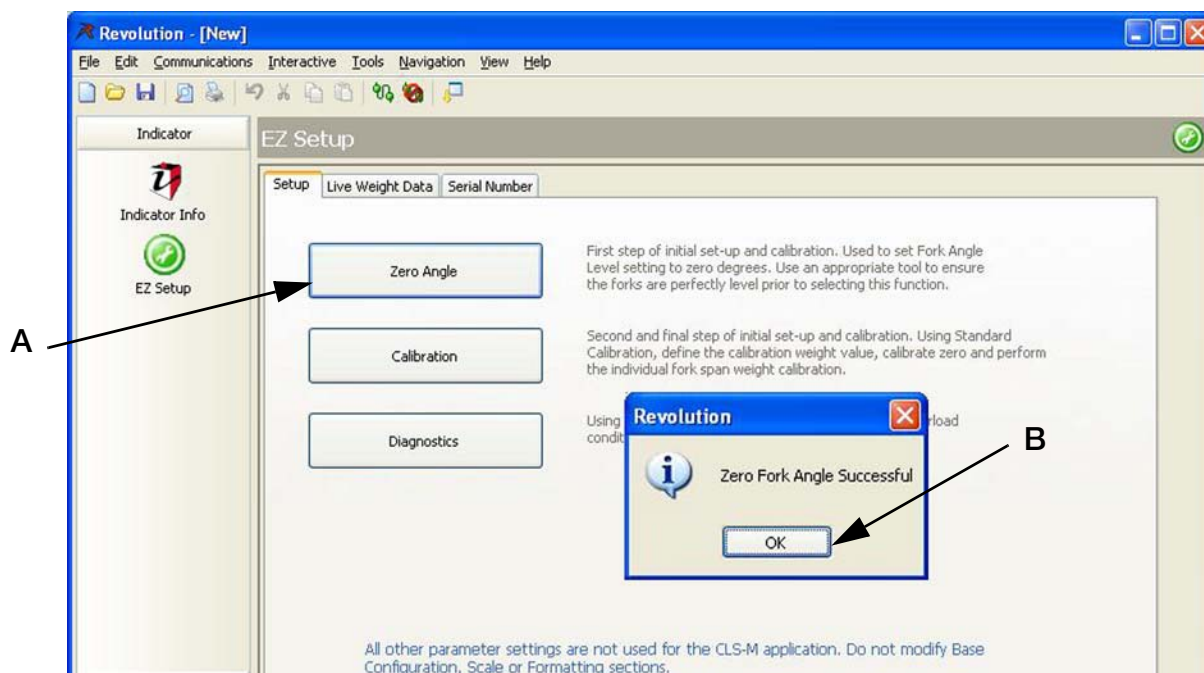

Figure 5-1. Zero Forks
2. In the setup screen, press Zero Angle (Fig 5-1 A).
3. A pop-up appears as shown in (Fig 5-1 B), press OK to close pop-up box.